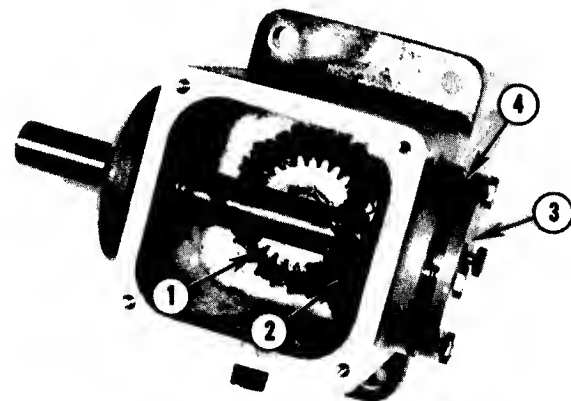

**FIG. 10.16--BEARING INSTALLED OVER INPUT SHAFT**
21. Install bearing on other end of input shaft. Fig. 10.16.